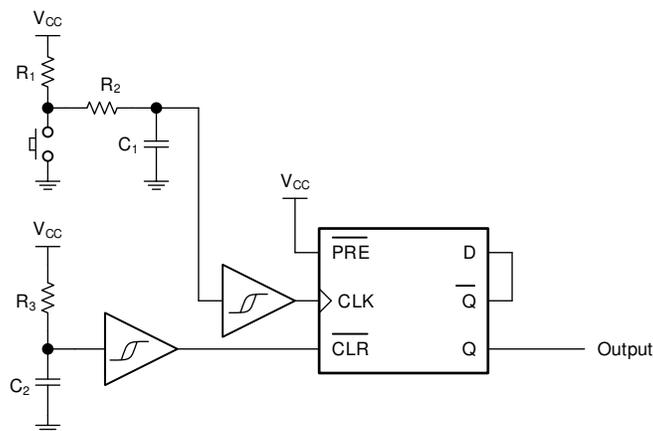

Figure 9. Typical application schematic
If the data input (D) of the SN74HC74-Q1 is tied to the inverted output (\overline{Q}), then each clock pulse will cause the value at the output (Q) to toggle. The momentary switch can be debounced and connected to the buffered clock input (CLK) to toggle the output. These connections are shown in Figure 9